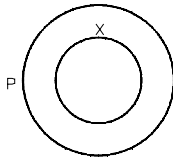

Figure 1-46 Two sets of circles in the sketch
2. Sketch two circles P and Q some distance apart as shown in Figure 1-46.
4. Select circle P and using the left mouse button select a point inside circle P. A red rubber-band circle is attached to the cursor. Size the circle and complete it by using the left mouse button, see Figure 1-46.
6. Using the left mouse button, select circle Q. Use the left mouse button to select a point inside circle Q. A red rubber-band circle is attached to the cursor. Size the circle and complete it by using the left mouse button, see Figure 1-46.